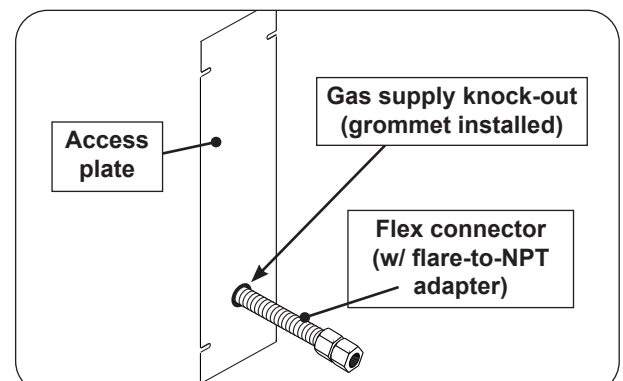

Fig. 25-4 Access plate view & install orientation
2. Remove the plastic grommet (attached to the flex connector) and insert it into the newly created opening. Then route the flex connector through the opening. See Fig. 25-4.